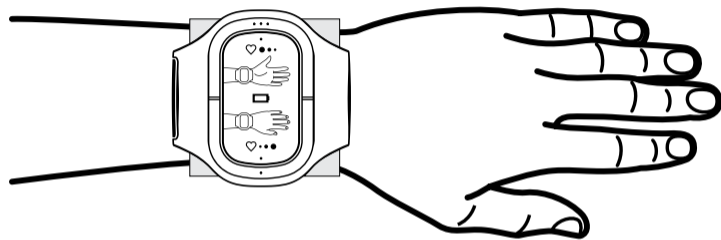

Fig.5. Electrostimulator position in the outer wrist zone for patients with low blood pressure
12.7.2. Outer wrist zone — exposure area for patients with low blood pressure (Fig.5).